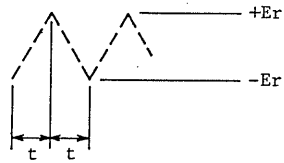

Figure 4-4
Denoting by I the constant current with which the integrating capacitor C is charged and discharged, by $\pm E_r$ the reference voltage of the voltage comparator, and by t the period from $+E_r$ to $-E_r$ as shown in Figure 4-4, equation (1) can be written.
The oscillating frequency can be written as follows referring to Figure 4-4.